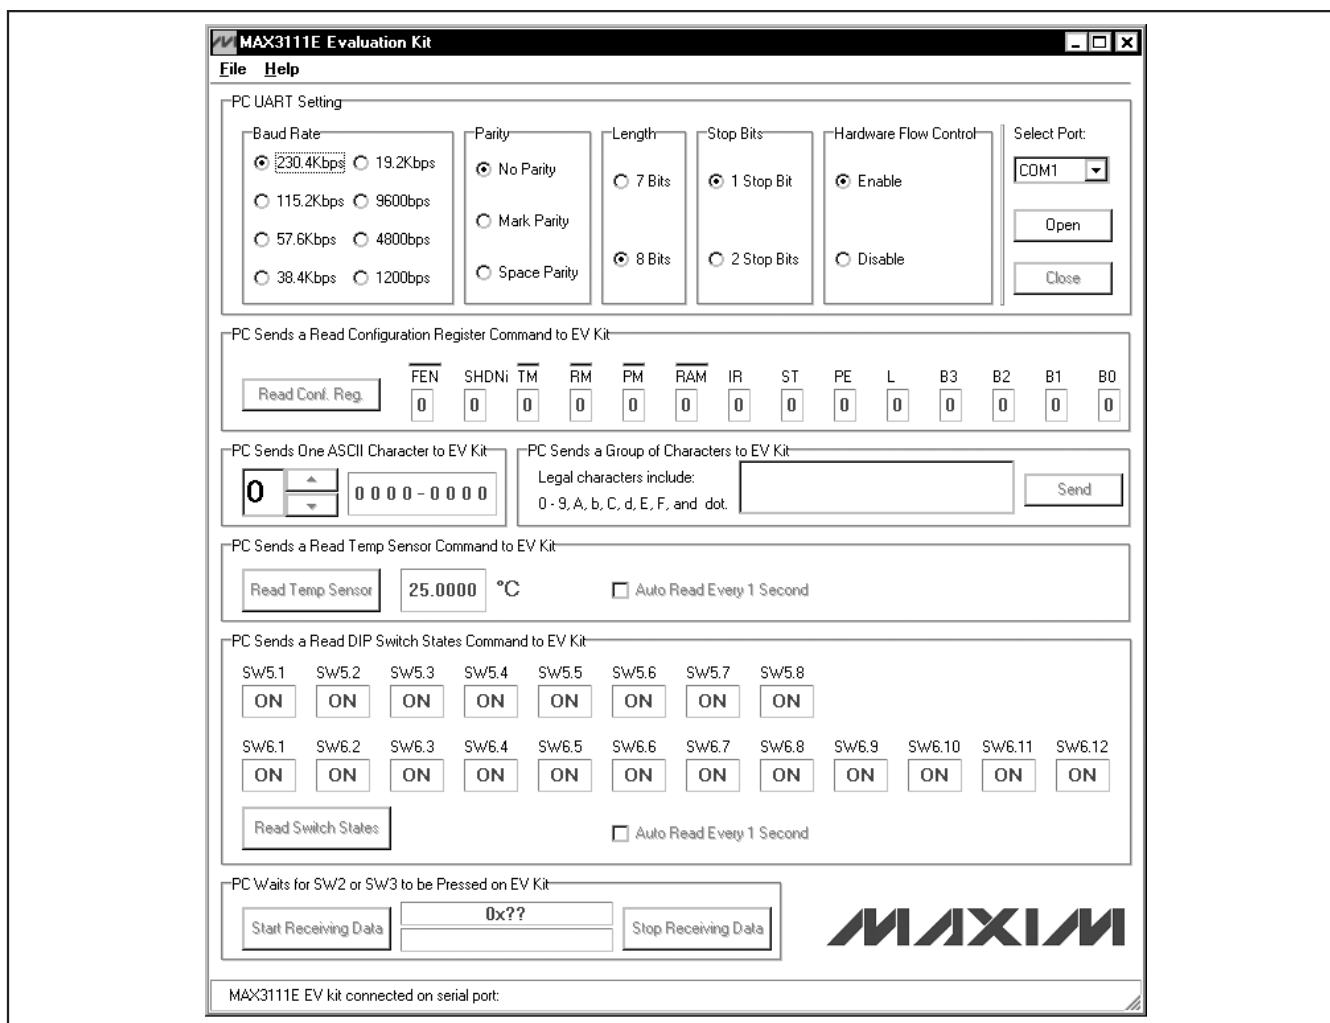

Figure 2. MAX3111E EV Kit Software Main Window
- 8) Start the MAX3111E EV kit software by opening its icon in the **Start | Programs** menu. The EV kit software main window appears, as shown in Figure 2.
The software main window includes eight group boxes, as shown in Figure 2.